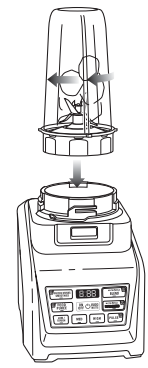

Fig. 3
- 6 Rotate the pitcher clockwise until it locks in place, you will hear a click when the lock is engaged. **(Fig. 3)**
- 5 Turn the Nutri Ninja cup upside down and place it onto the motor base, aligning the tabs on the cup with the motor base. Rotate the Nutri Ninja cup clockwise until it locks in place, you will hear a click when the lock is engaged. (Fig. 3)